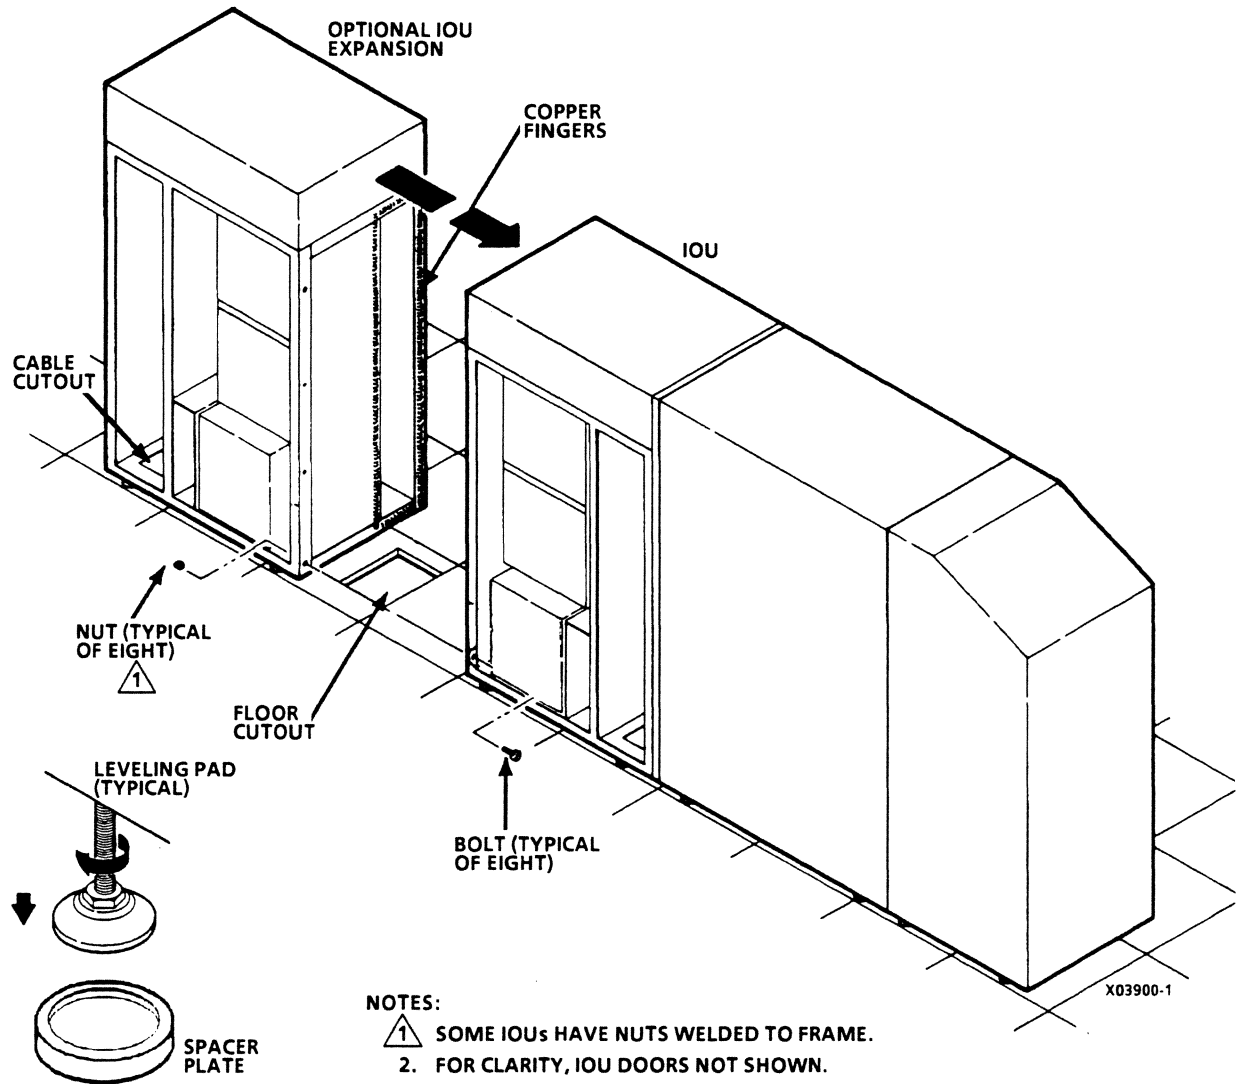

Figure 2-12. Optional IOU Expansion Bolting
- ___ 2. Inspect copper fingers around interface opening on optional IOU expansion (figure 2-12). Replace any 25 mm (1 in) or greater section of adjacent fingers that are missing or deformed and will not compress between units. (Replacement copper fingers are supplied with equipment.)